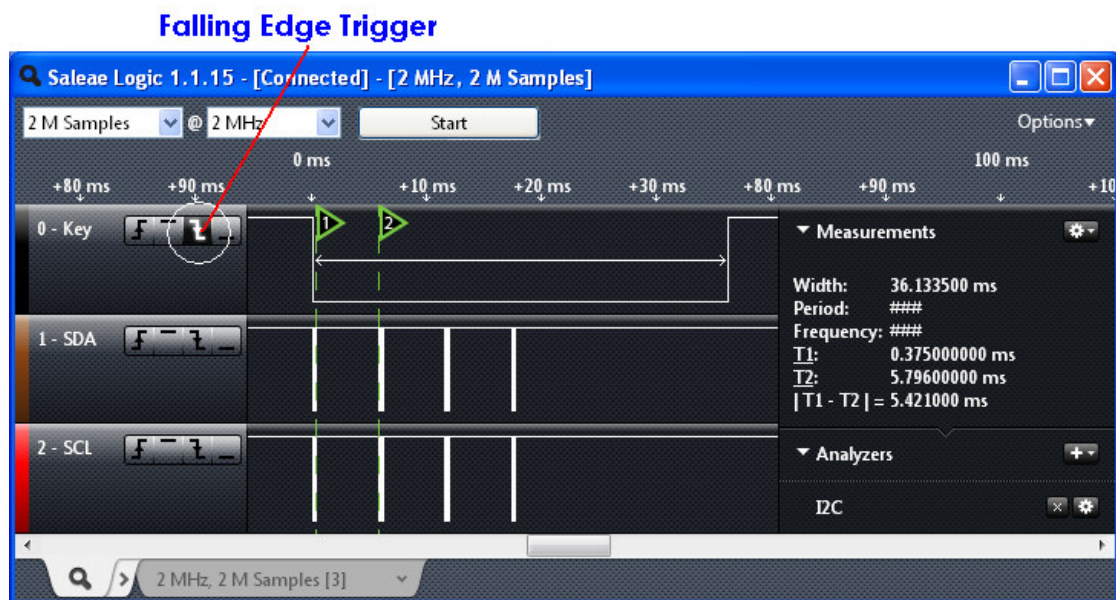
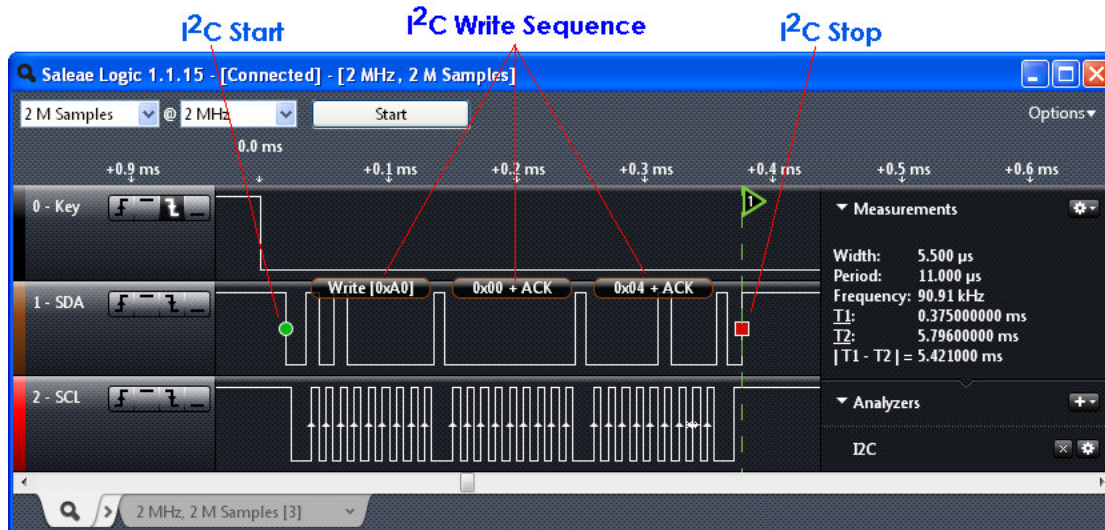

**Figure 31 – Trigger point setup**
Figure 32 – I2C Write Sequence Timing
- Press the P7 button. A screen similar to Figure 32 will appear. Move the mouse cursor to Saleae Logic window channel region and scroll the mouse wheel in order to zoom in and zoom out of the signals. 4 pulse sequences should appear. By moving your mouse cursor over the window, you would select two closest signal transitions to the mouse cursor and the duration between these two signal transitions is displayed as Width under the Measurements window. For example, you can observe that the P7 key was pressed for a 36.13 ms duration from Figure 31.
9. Scroll the mouse wheel to zoom into and capture the first pulse sequence as shown in Figure 32: